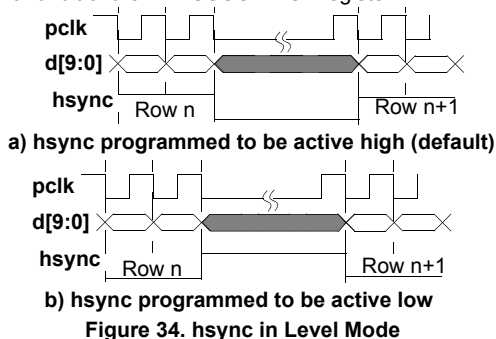

Figure 34. *hsync* in Level Mode
- Level mode should be used when the pixel clock, *pclk*, is programmed to operate in *free running mode*. In level mode the *hsync* output pin will go to the specified level (high or low) at the start of each row and remain at that level until the last pixel of that row is read out on *d[9:0]* as shown in Figure 34. The *hsync* level is always synchronized to the active edge of *pclk*. The *hsync* pin is put into level mode by setting the *HsyncMode* bit of the *DVBUSCONFIG1* register to a logic 0. The active level of the *hsync* pulse is programmed using the *HsyncPol* bit of the *DVBUSCONFIG1* register.